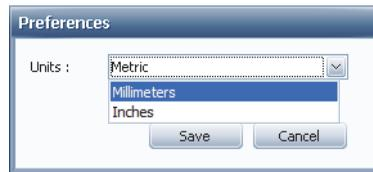

Figure 3-2 Selecting the measurement unit in the Preferences dialog box
2. In the **Preferences** dialog box, click the **Units** list, and then select the appropriate measurement unit (see Figure 3-2 on page 26).